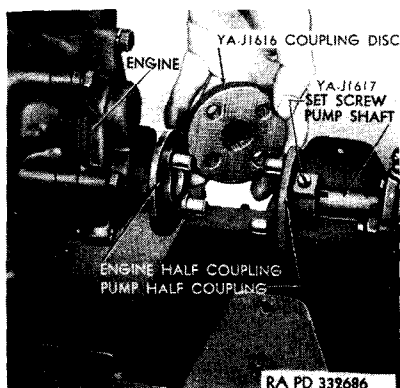
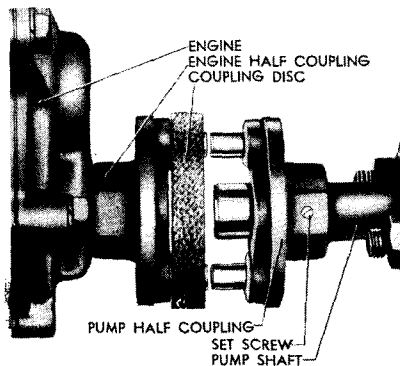

Figure 70—Coupling Disk
Figure 71—Alining Pump and Engine
coupling halves in the coupling disk (fig. 70). Install attaching bolts from below, lock washers, and nuts. Before tightening nuts, aline pump and engine (subpar. c below).
c. **Aline Couplings** (figs. 70 and 71). To operate freely, the shafts of the gasoline engine and pump must be in line. Loosen set screw and slide pump coupling back on pump shaft. Rotate shaft until pins line up (fig. 71).